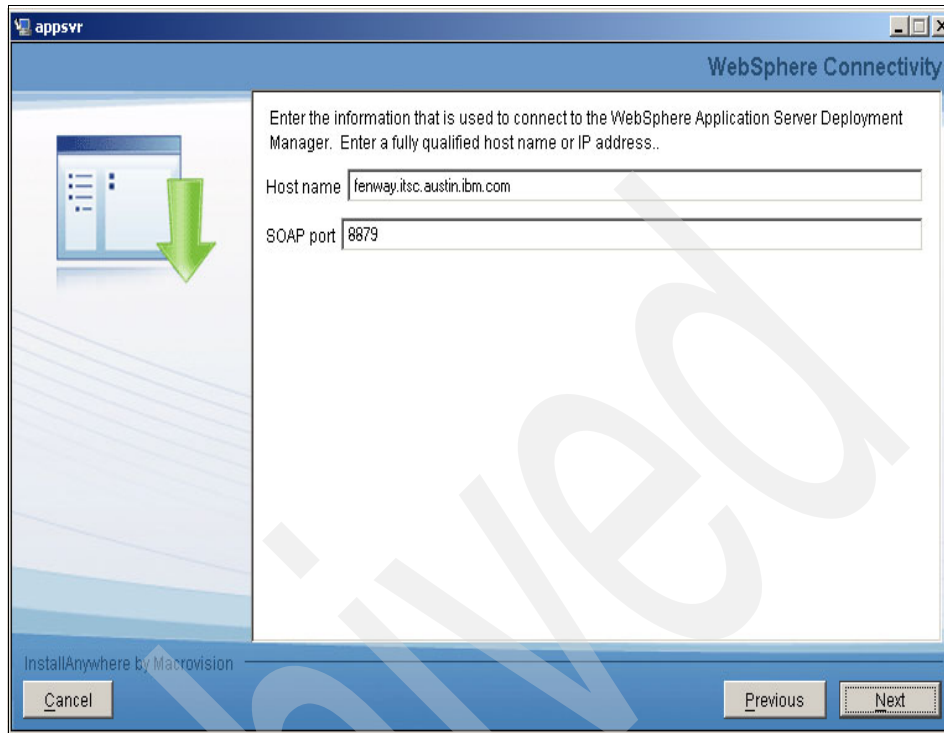

Figure 5-14 WebSphere Connectivity
9. From the **WebSphere Connectivity** panel, enter host information about the WebSphere Application Server, and then click **Next** (Figure 5-14 on page 87).